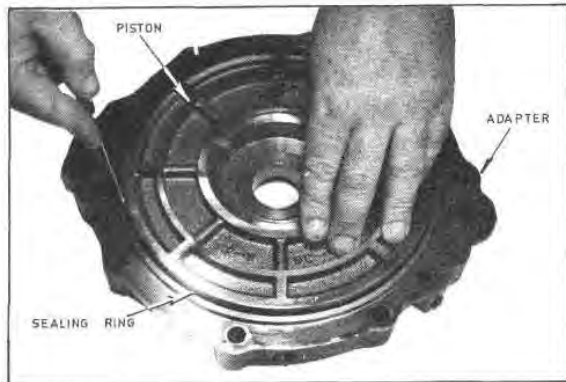
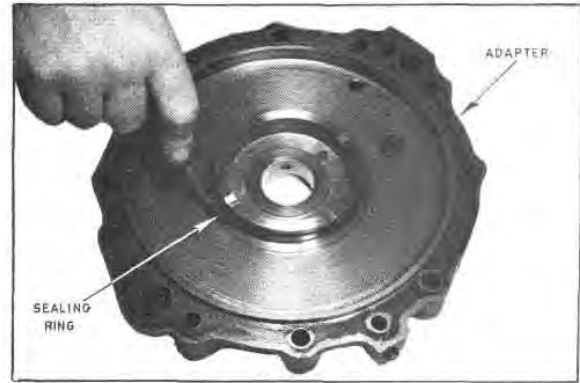

Fig. G21 — The Reverse Clutch Piston
Fig. G22 — The Adaptor Inner Hub Seal Ring
8. Force compressed air into the reverse clutch apply hole to remove the reverse clutch piston (Figure G21). Remove sealing rings from the inner hub of the adaptor and from the reverse clutch piston (Figures G22 and G23). Inspect the sealing rings for wear, mutilation, or brittleness, and replace if damaged. Inspect the reverse clutch piston for wear, scoring, or burrs on the inside and outside diameters. Inspect the adaptor for wear, scoring, and burrs at the clutch cavity outer wall and on the diameter of the internal hub. Examine the adaptor bushing for wear (Fig. G22). Examine the internal oil passages of the adaptor for burrs or foreign material.